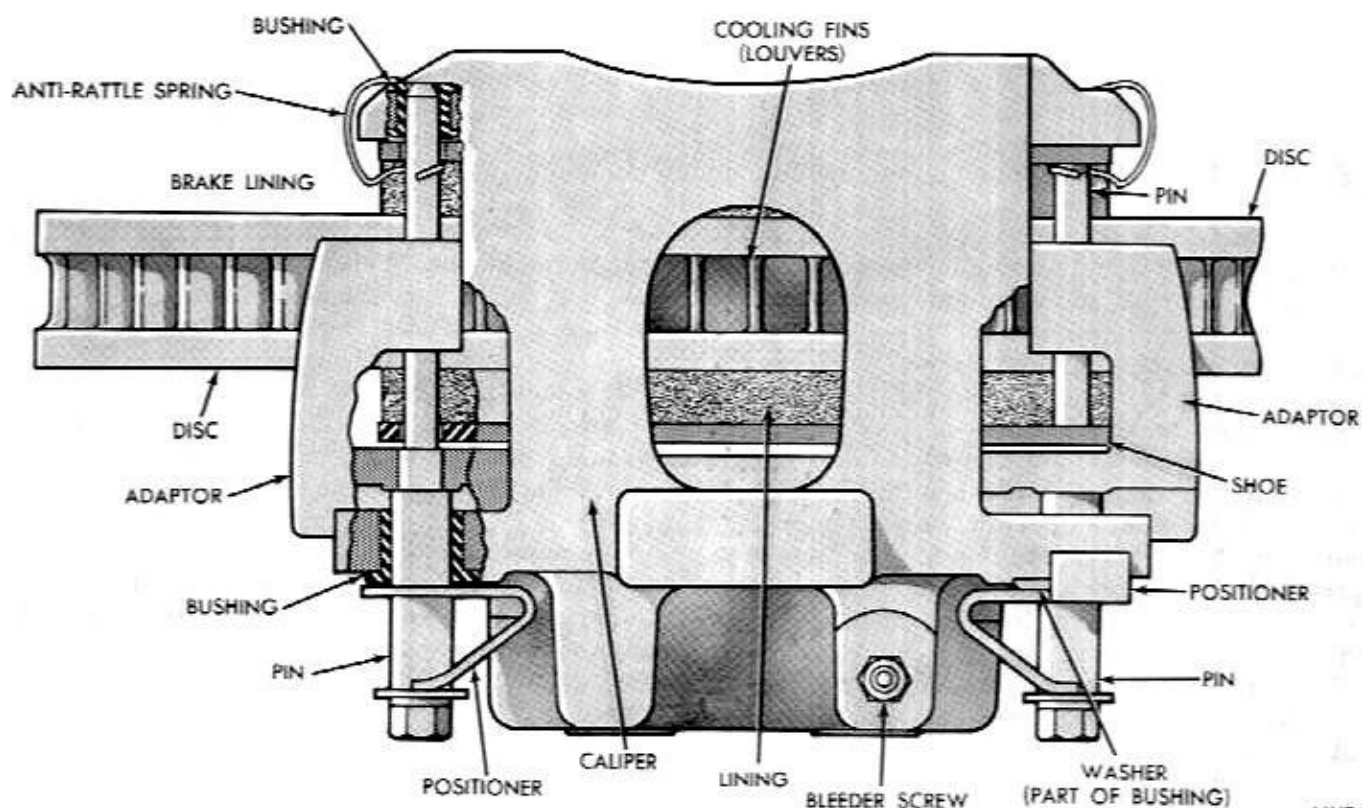
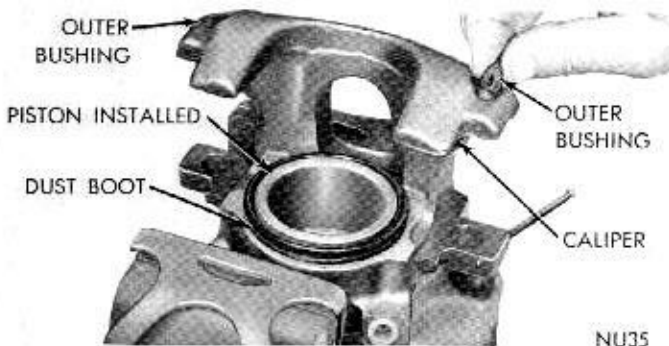

Fig. 3—Floating Caliper Assembly (Sectional)
Fig. 18—Installing Outer Bushings
The single piston caliper assembly floats through four rubber bushings on two steel guide pins threaded into the adaptor. Two of the bushings are inserted in the outboard portion of the caliper and two on the inboard side (Fig. 3). Four machined abutments on the adaptor, position and align the caliper, fore and
with flanged end on inboard side (Fig. 3). Compress flanges of outboard bushing in fingers and work into position in hole from the outboard side of caliper (Fig. 18).
(4) Holding outboard lining in position, carefully slide caliper down into position in adaptor and over disc. Align guide pin holes of adapter, inboard and outboard shoes. (Fig. 3).
(5) Install new inner guide pin bushings in caliper with flanged end on inboard side (Fig. 3). Compress flanges of outboard bushing in with fingers and work into position in hole from the outboard side of the caliper (Fig. 18). Press **IN** on bushing, using finger tips or small plastic stick (Fig. 18) until seated. Be sure flanges extend over caliper casting evenly on both sides. Install bleeder screw.